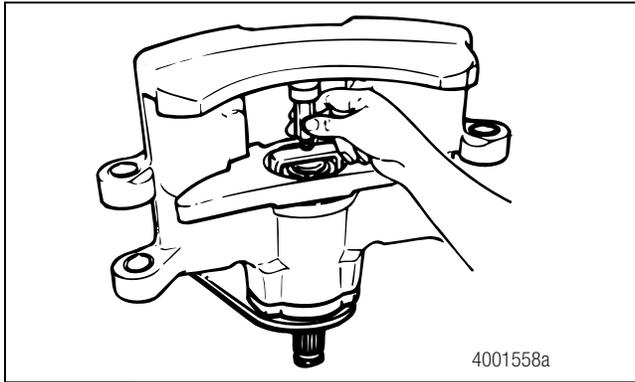

Figure 5.4
5. Use the adaptor tool to remove the spring retainer. Position the tool between the spring retainer and the caliper leg, and directly over the spring retainer. Figure 5.4.